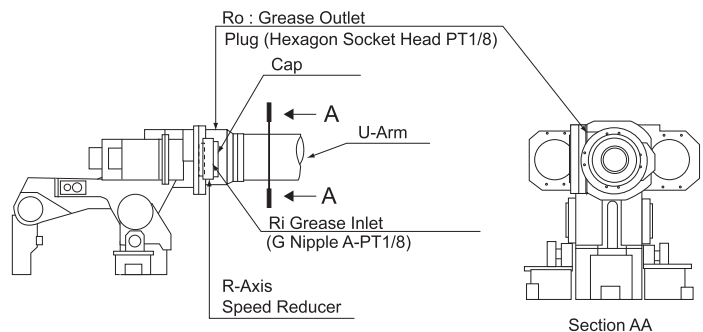

Fig. 24 R-Axis Speed Reducer Diagram
■ Grease Replenishment (Refer to " Fig. 24 R-Axis Speed Reducer Diagram ".)
■ Grease Replacement (Refer to " Fig. 24 R-Axis Speed Reducer Diagram ".)